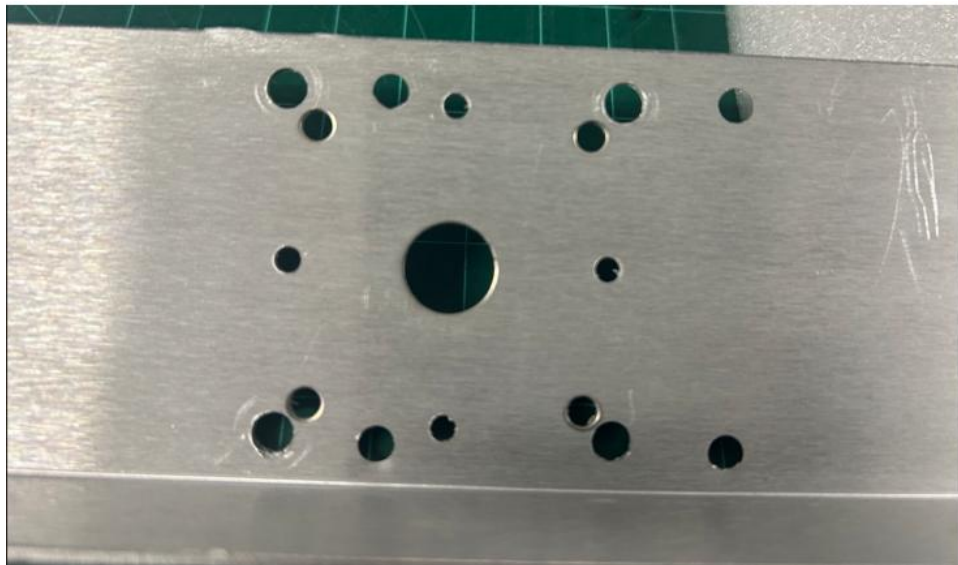

Figure B-5 — Bracket after drilling. Both patterns are shown here for illustration; drill only the pattern for your motor.
NOTE: The template carries both hole patterns. The bracket shown in Figure B-5 was drilled for both patterns for illustration only — you only need to drill the pattern for your motor.
5. Deburr the holes and leave no sharp edges (Figure B-5).